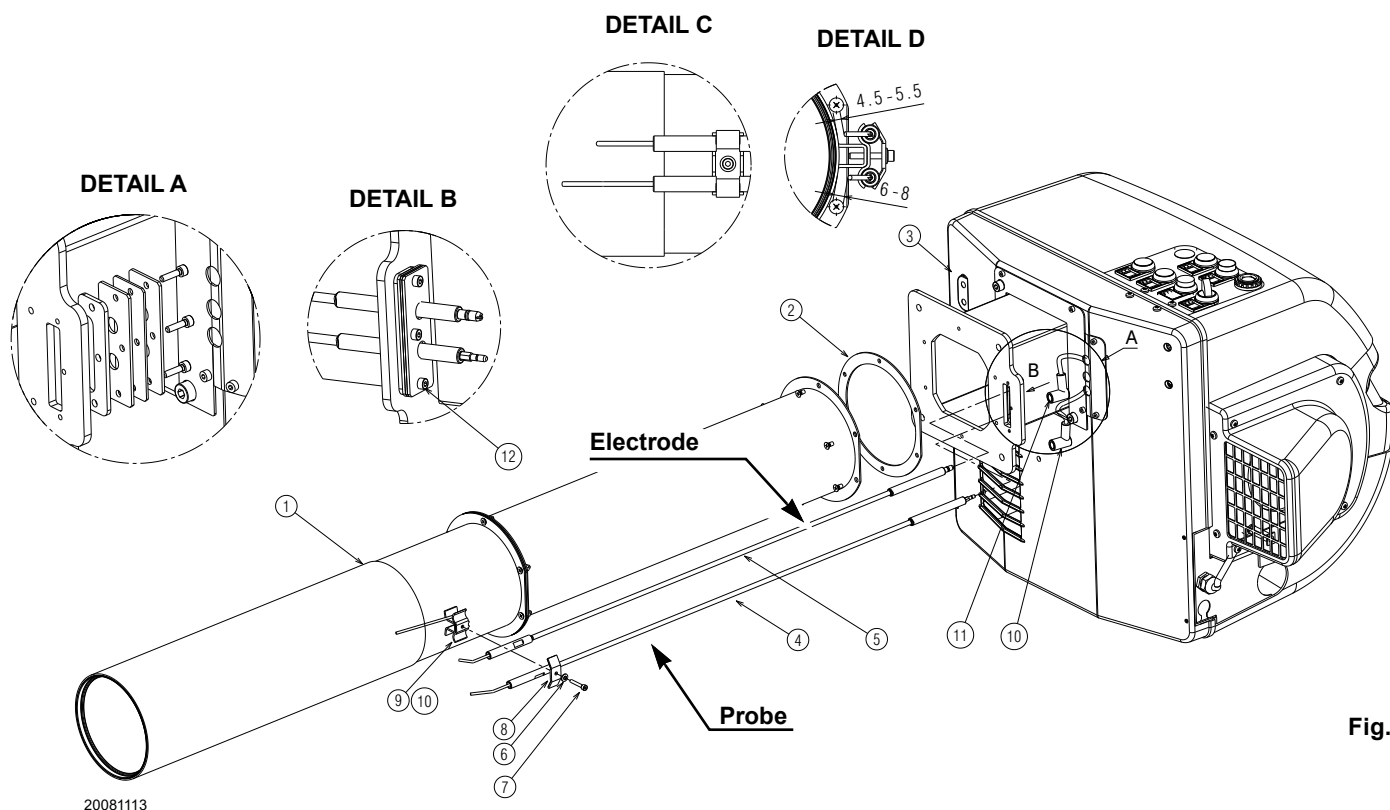

Fig. 13
- Assemble the combustion head 1) to the burner 3) interposing the gasket 2)(Fig. 13).